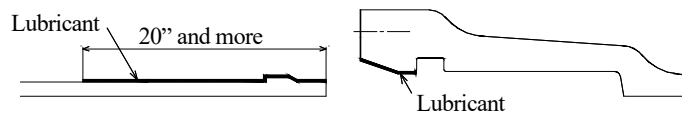

Figure 11 Application of lubricant
1) Apply lubricant to the spigot outside and socket inside (see Figure 11).